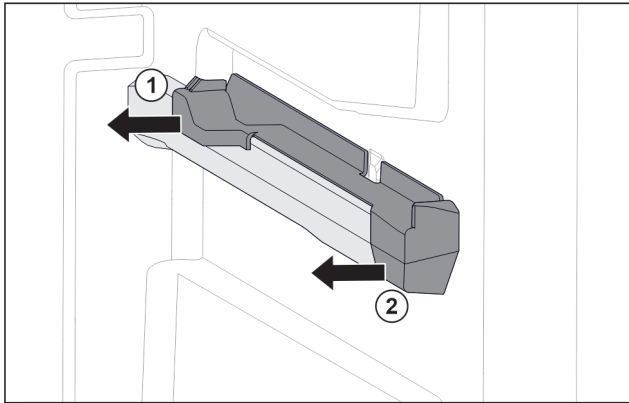

Fig. 77 Attachment on the right moulded rib
- Grab attachment at the back from below. Fig. 77 (1)
- Pull off attachment at the back sideways. Fig. 77 (1)
- Pull off attachment at the front sideways. Fig. 77 (2)